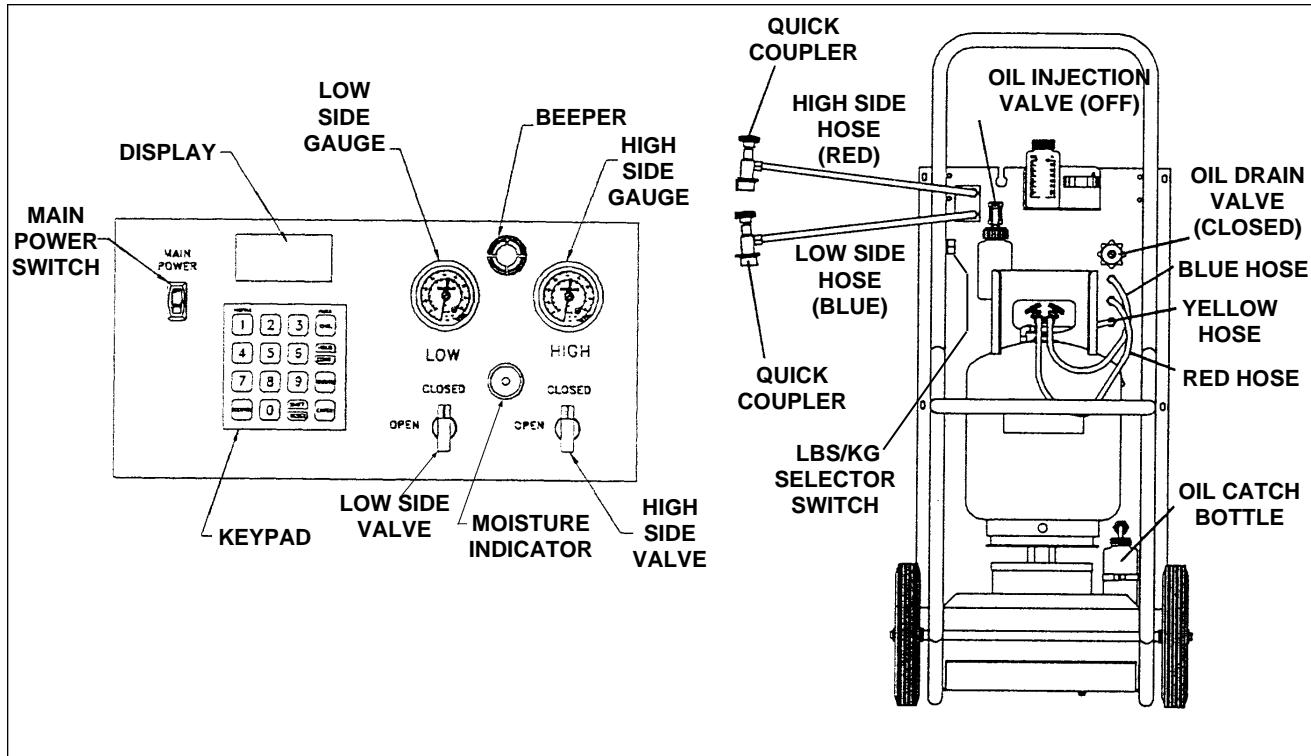
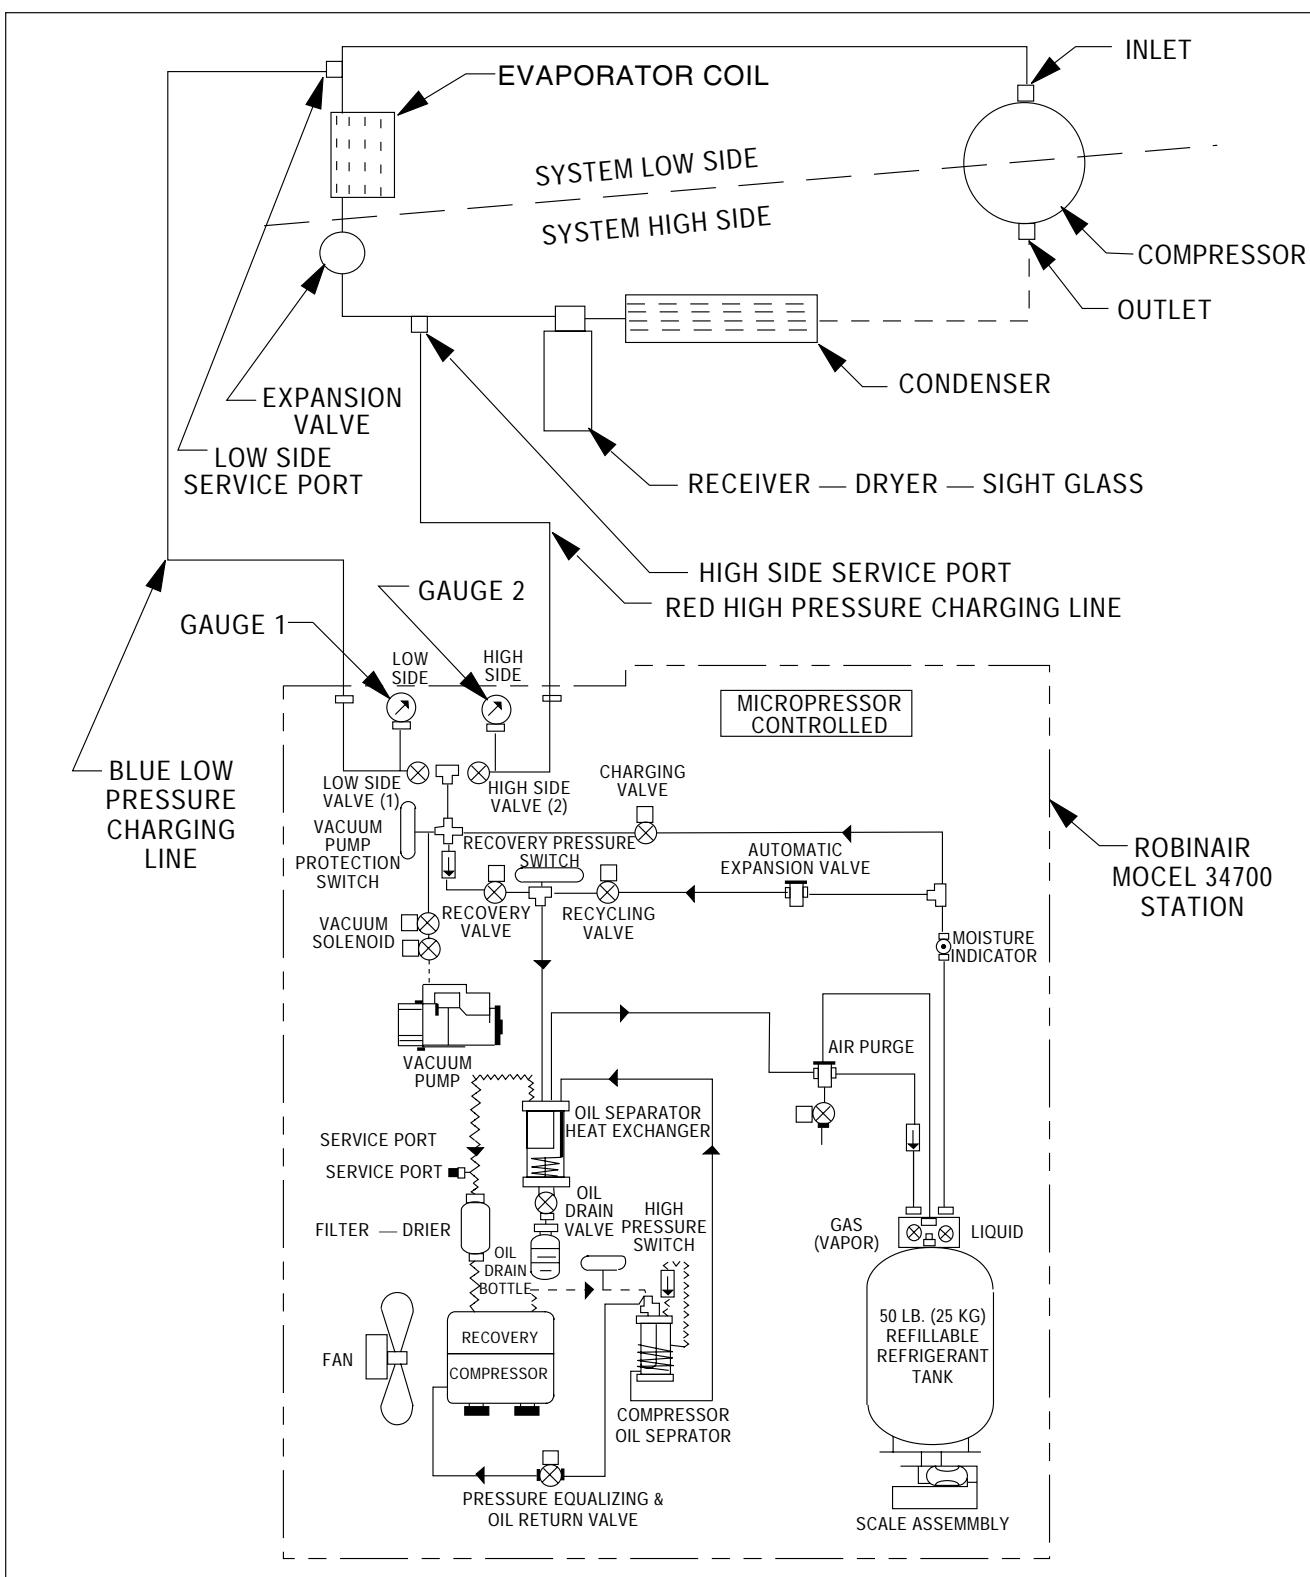

Figure 21-10. Robinair 34700 Control Panel and Hose Connections
Figure 21-11. Robinair 34700 Hose Hookup
a. Using the Robinair 34700 (Refer to Figures 21-10 and 21-11)
- (1) Remove access panel at rear of cabin to gain access to service valves.
- (2) Remove protective caps from the high and low side service ports on the evaporator unit.
- (3) Close both the low side and high side valves on charging unit. Refer to Figure 21-10
- (4) Connect the blue and red hoses to the service ports as shown in Figure 21-11. On systems equipped with quick disconnect connections, open coupler valves
- (5) Open blue (low side) valve (1) on unit's control panel
- (6) Open both the red GAS (vapor) valve and the blue LIQUID valve on the **tank**. (Refer to Figure 21-10.)
- (7) Program the length of evacuation time.
- (8) Enter the required time in minutes and seconds (30:00 minutes minimum) by pressing appropriate keys and then ENTER on keypad. The display will show selected time in **minutes and seconds**. Example: one hour and fifteen minutes (1:15) would be entered as 7500. The display will show 75:00. Thirty minutes is entered as 3000. the display will show 30:00.
- (9) To start the vacuum pump press the VACUUM key on keypad again.
- (10) Vacuum sequence will continue for the programmed time. Digital display will then show CPL, indicating that the evacuation is completed.
- (11) If, after 5 minutes of pump operation, the RED gauge does not indicate a little below zero:
- (1) If recharge/test stand is not already connected to system, follow steps 4, a, (1) through (4) above.
- (2) Open the high side (2) valve and allow 1/2 pound of refrigerant to enter the system. Close high (2) side valve. (Refer to Figures 21-10 and 21-11.)
- (3) Locate leak(s) using an electronic leak detector designed to detect R12 and/or R134a refrigerant, as appropriate. Or, use soap and water in a thick solution.
- (4) Repair leak(s).
- (5) Discharge system per paragraph D, 5.
- (6) Perform evacuation procedure per paragraph D, 3, a.
- (7) Immediately perform charging procedure per paragraph D, 6.